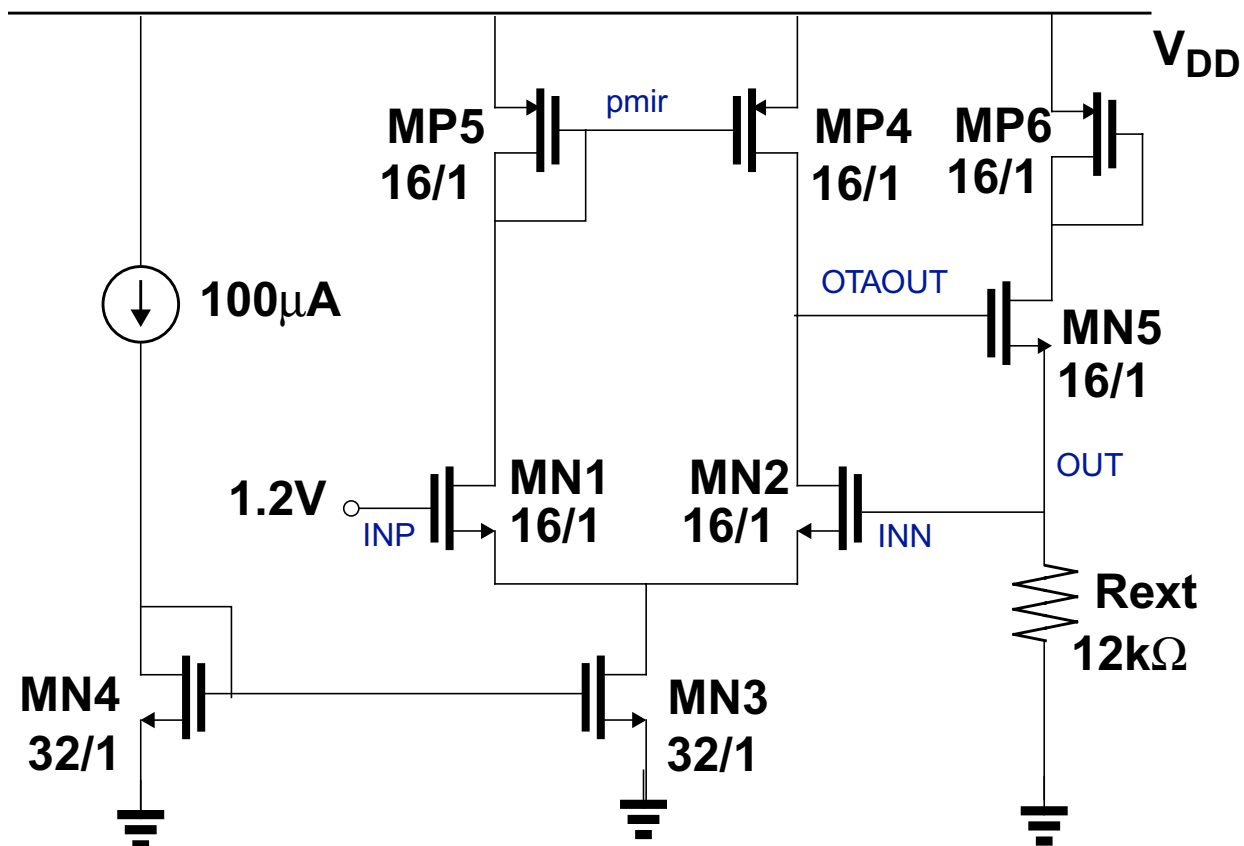

Figure 43: Circuit drawing for Lab 3. INN and OUT are the same node (but are split in the AC analysis when the loop is cut).
- [i] The circuit (similar to one treated in the course, and shown in Figure 43) features a simple opamp (more correctly an operational transconductance amplifier or ota), and a source follower stage which uses negative feedback to copy a reference voltage (in this case 1.2V e.g. from a bandgap voltage reference) across a resistor R_{ext} . The intention is to generate an accurate current of V_{ref}/R_{ext} which can then be mirrored to other circuits. MP6 is the input part of the PMOS current mirror which copies the reference current generated by the circuit.